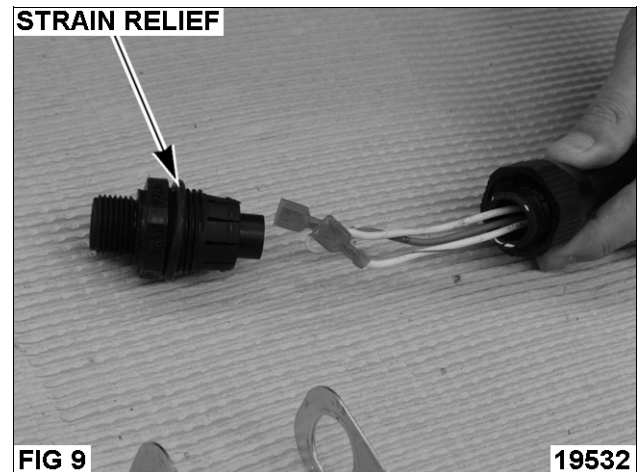

FIG 9 19532
9. Install the strain relief at other end of electrical conduit per Fig. 9.